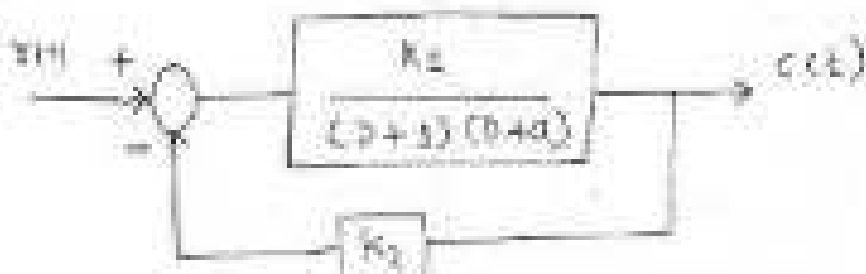

Figure 4-a
- Q4) a) For the proportional control system shown in figure 4-a, determine  $k_1$ ,  $k_2$  and  $A$  such that system will have a steady state gain of 1, natural frequency of 2 and damping ratio of 0.5. [8]